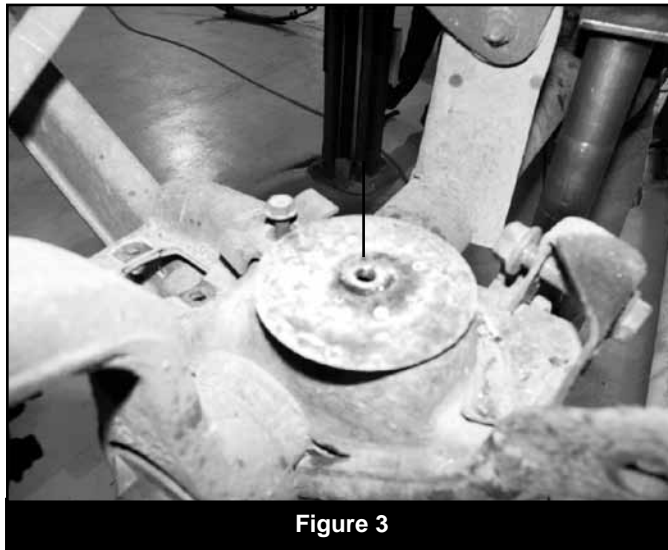

Figure 3
19. Drill the lower bump stop holes using a 1 1/32" or T size drill and use the 3/8" self-tapping bolt (BP 438) to cut threads for bump stop extensions. Remove the 3/8" self-tapping bolt. (Fig 3)